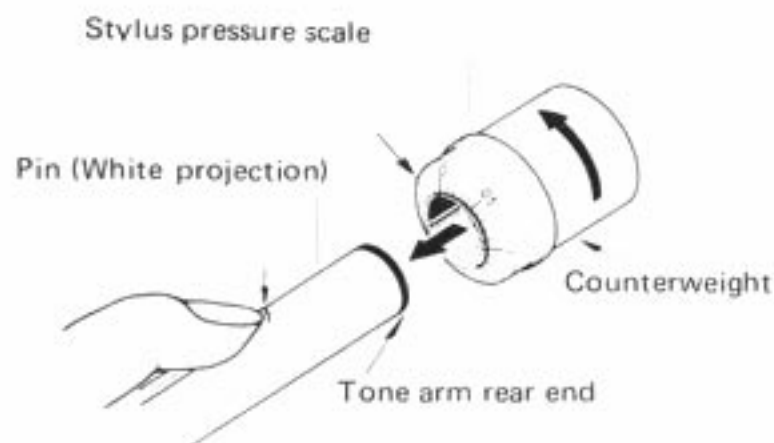
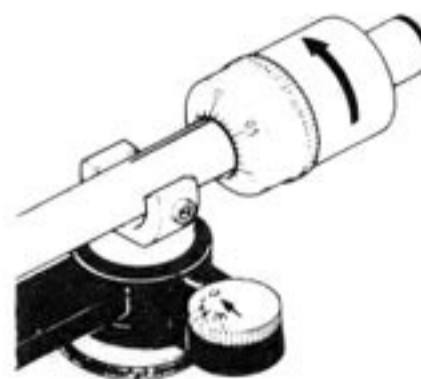

Fig. 2 Attaching the Counterweight
Fig. 9 Horizontal balance with Antiskating set to 0.
shown in Fig. 2, slide the counterweight from the rear end of the tonearm to the pin (white projection).
counterweight in the arrow direction (Fig. 2) while lightly pushing it so that it will be moved until the tonearm rear end is exposed as shown in Fig. 9.
Adjust the stylus to the correct pressure as mentioned below. (Fig. 9,10).
- 2) Set the anti-skating knob to "0" on the scale. (Fig. 9)
the shell end is down, turn the counterweight opposite to the arrow direction as shown in Fig. 9, and if the shell end is up, turn the
- 4) Keep the counterweight from turning and turn only the stylus pressure scale until the "0" on the stylus pressure scale is in line with the tonearm reference line. (Fig. 9) (Since the tonearm is brought to horizontal balance by this time, the stylus pressure will be zero now.)